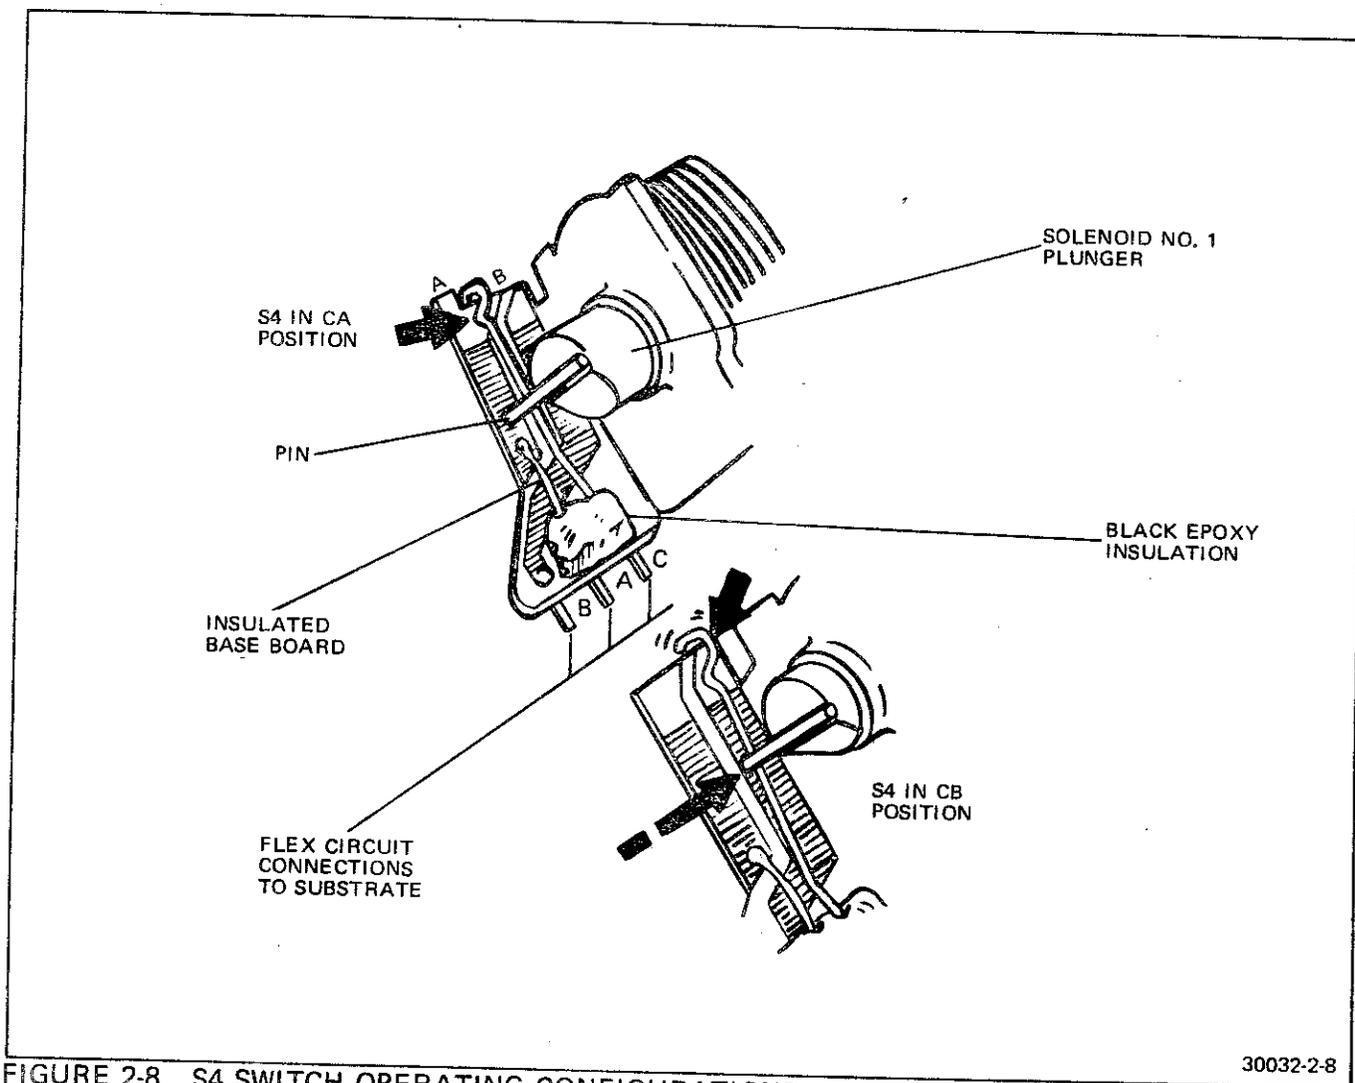

FIGURE 2-8 S4 SWITCH OPERATING CONFIGURATIONS
d. Switch S4 is actuated by a pin on the plunger of solenoid no. 1, the shutter blade actuating solenoid (Figure 2-8).